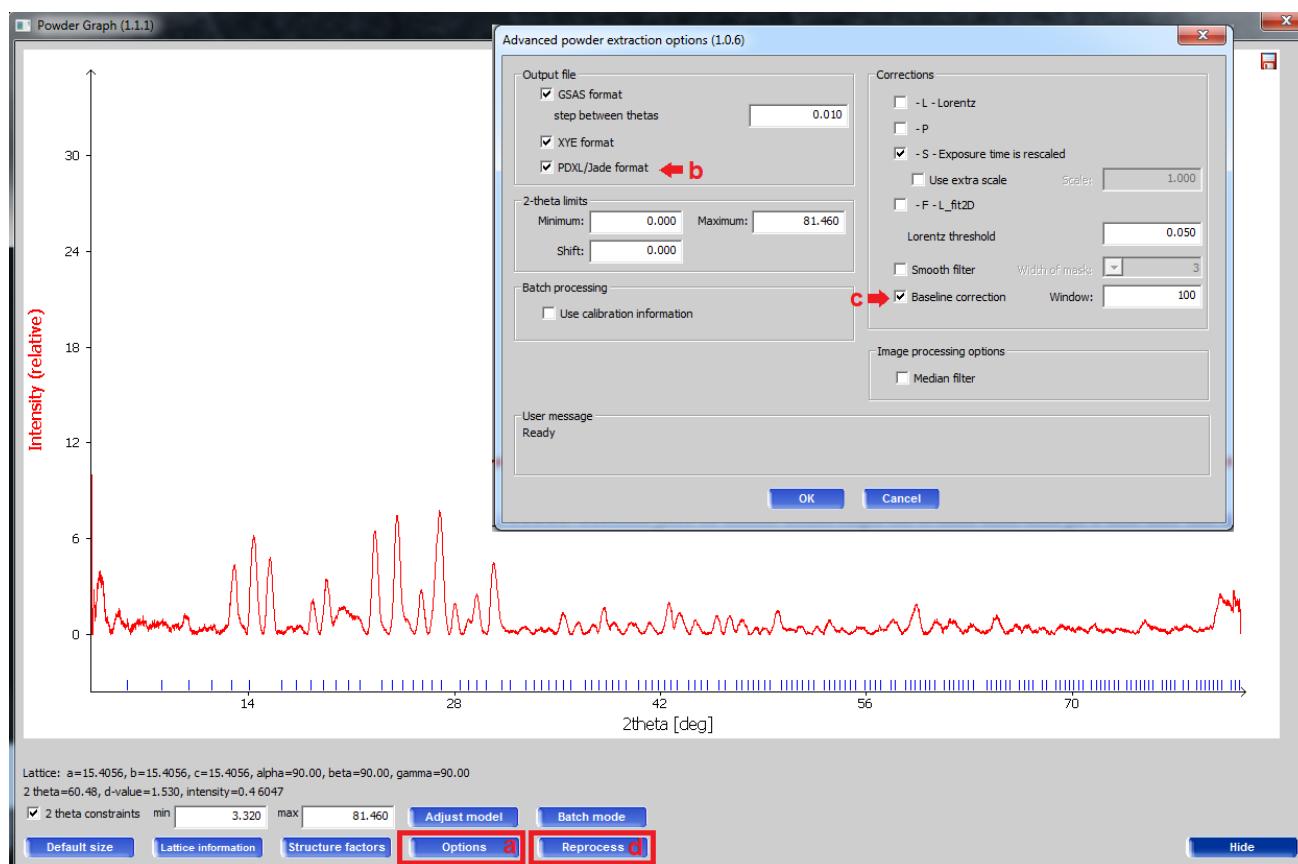

Fig. 21. Reprocessing menu for the powder patterns.
- 3) Go to the Windows menu to open the *PowDLL Converter* software (Fig. 21).